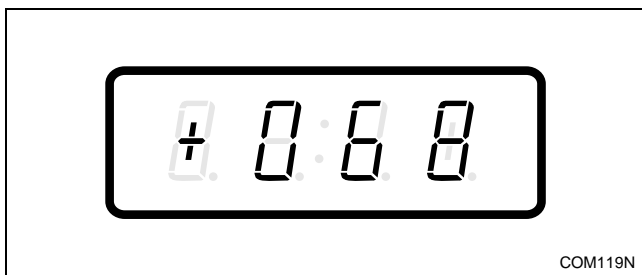

Figure 88
3. Press the DELICATES (+) or the COLD (-) keypad to scroll through the programmable options until “+068” appears in the VFD. Refer to *Figure 88*.